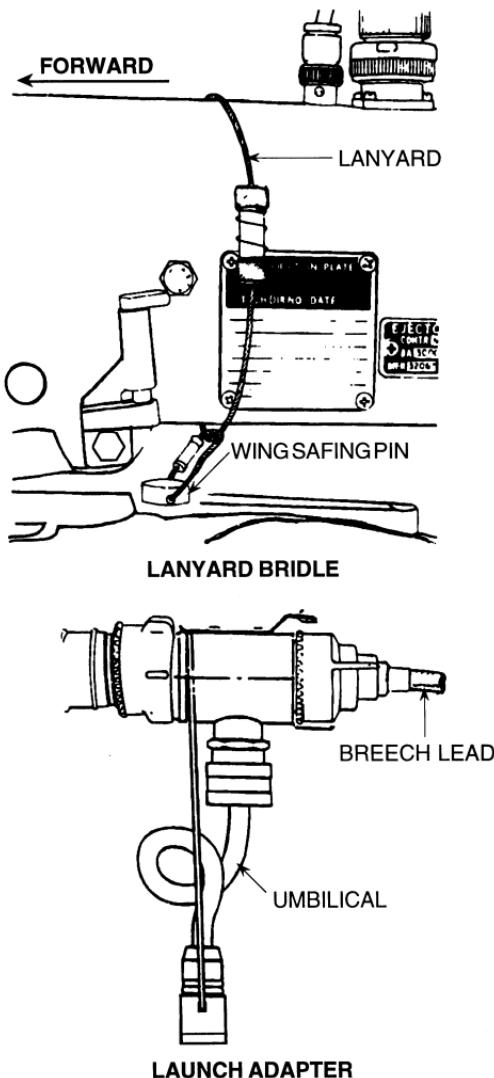

Figure 3. Lanyard Bridle and Launch Adapter Installation
5. Connect wing safing pin lanyard bridle to rack (Fig. 3)()